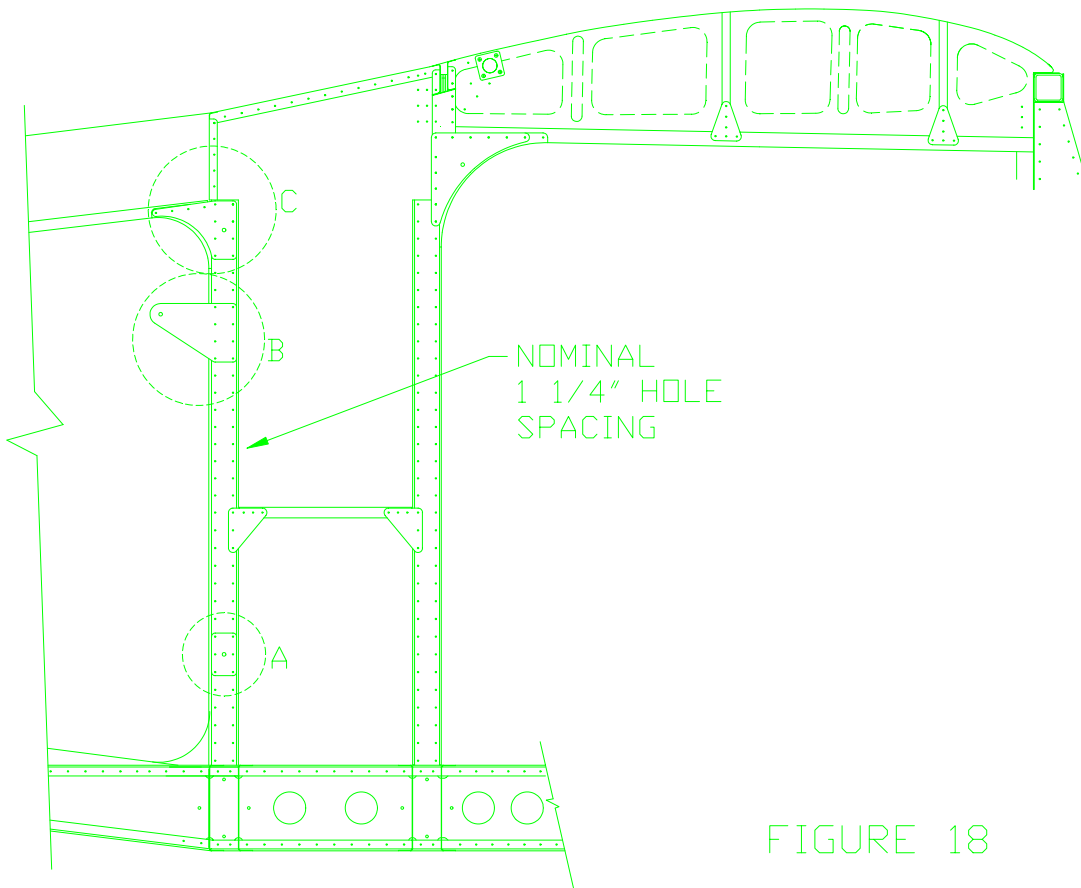

FIGURE 18
58) Station 7 & 8 uprights are finished similar to station 5 & 6 but have two extra brackets installed. The bracket shown in detail “B” is not required if you are putting in the optional rear bucket seats. Install the strap and channel gusset with 1/8 avex rivets and each bracket with 3/16 avex rivets. Each bracket is make from RAWST-9. Figure 18. 18A, 18B, 18C.